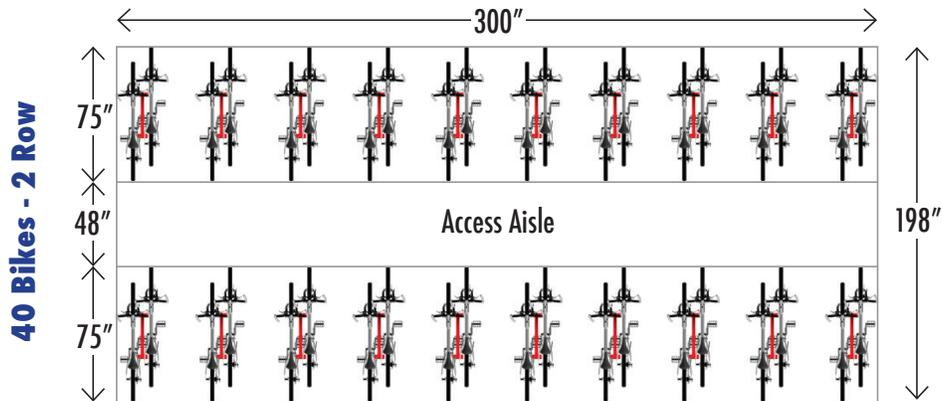

Figure 2: Sample layout for bike room or corral. *Credit: Dero Bike Racks*
- Following these dimensions, on a flat surface as many as 40 bikes can fit in a space 25 feet by 16.5 feet (see Figure 2):